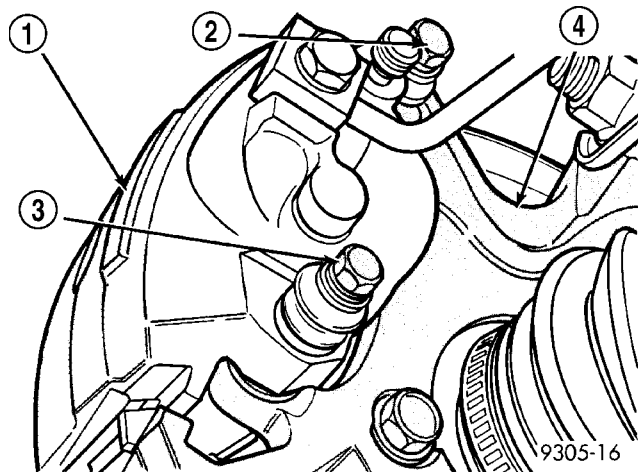

Fig. 11 Caliper Guide Pin Bolts
(1) Raise vehicle. (Refer to LUBRICATION & MAINTENANCE/HOISTING - STANDARD PROCEDURE)
(2) Remove front wheel and tire assemblies from vehicle.
(3) Remove the two caliper guide pin bolts (Fig. 11).
(2) Remove both front wheel and tire assemblies from vehicle.
(8) Install the caliper guide pin bolts (Fig. 11). Tighten guide pin bolts to a torque of 22 N·m (192 in. lbs.).
(9) Repeat the preceding steps on the opposite side of the vehicle, installing the brake shoes on that side of the vehicle.
(10) Install the wheel and tire assemblies.
(7) Install the caliper guide pin bolts (Fig. 11). Tighten guide pin bolts to a torque of 22 N·m (192 in. lbs.).
(8) Repeat the preceding steps on the opposite side of the vehicle, installing the brake shoes on that side of the vehicle.
(9) Install the wheel and tire assemblies.
(10) Tighten the wheel mounting stud nuts in proper sequence until all nuts are torqued to half specification. Then repeat the tightening sequence to the full specified torque of 135 N·m (100 ft. lbs.).
(11) Lower vehicle.